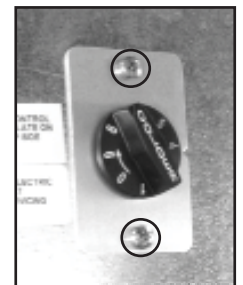

Figure 3. Removing temperature control.
A. The temperature control can be released from the panel by using a phillips head screw driver (See Figure 3).